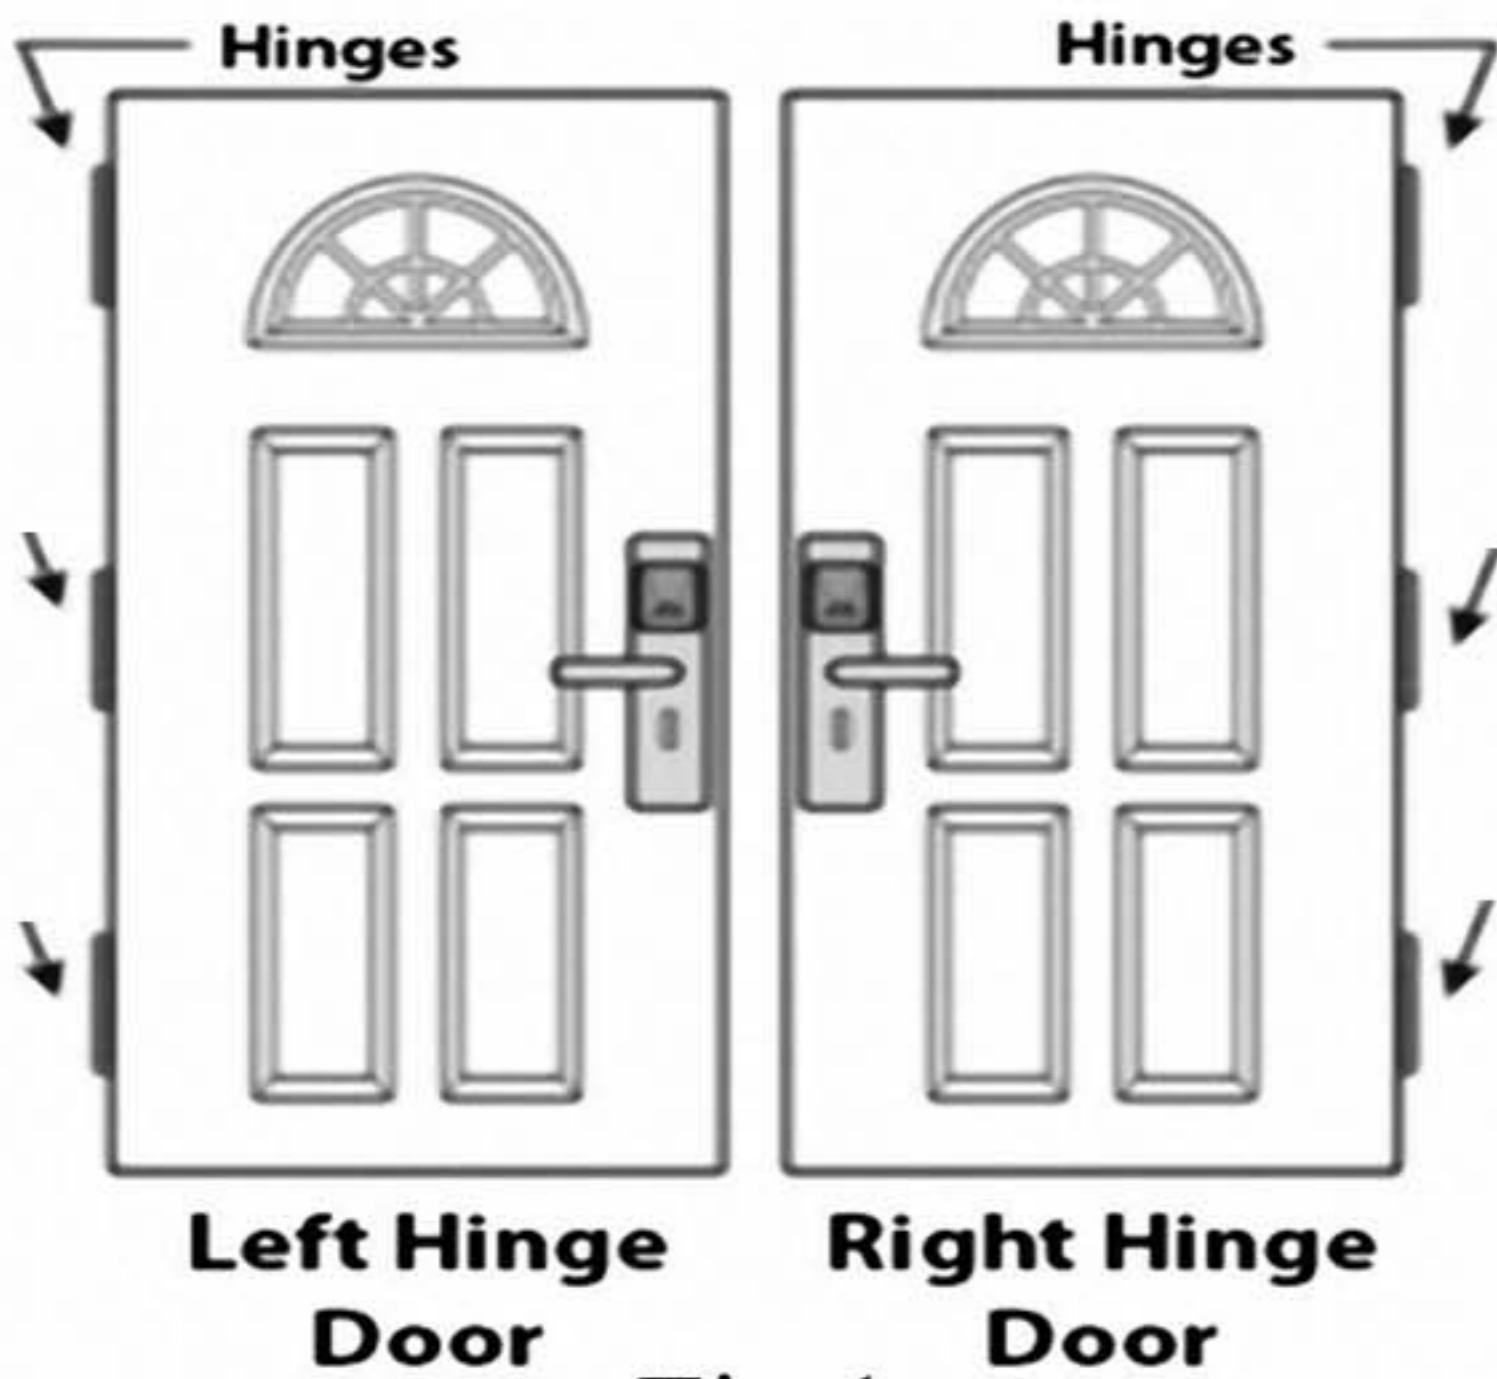

Fig.1
- b) Primary keypad is used during installation as the reference and point of view as in Fig.1, 6, 7
7. Use Fig.1 to determine your door type (Left or Right Hung).